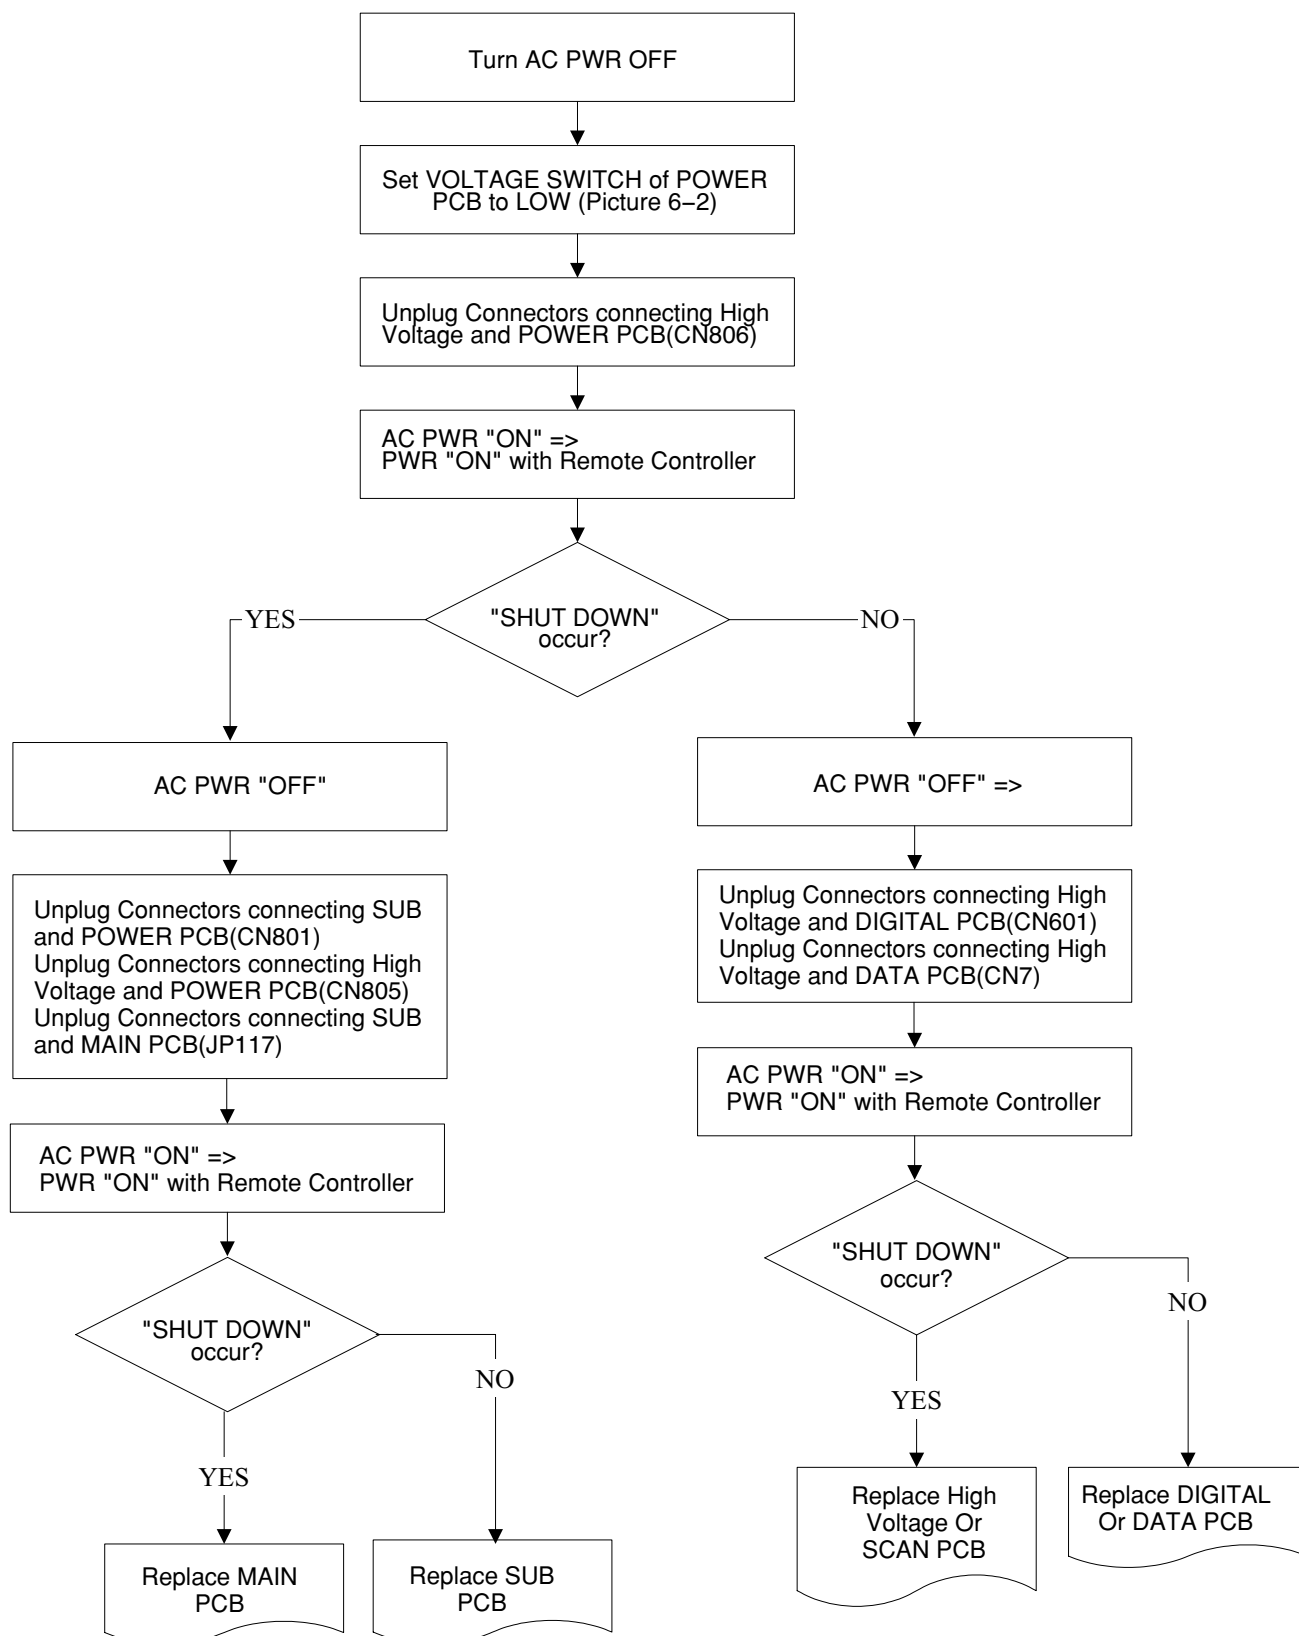

Fig. 6 Trouble Diagnosis Flow when LOW VOLTAGE "SHUT DOWN" occurs
- If “LOW VOLTAGE” part’s problem is detected, diagnose and repair the SET as shown in Fig. 6.
- If “HIGH VOLTAGE” part’s problem is detected, diagnose and repair the SET as shown in Fig. 6.